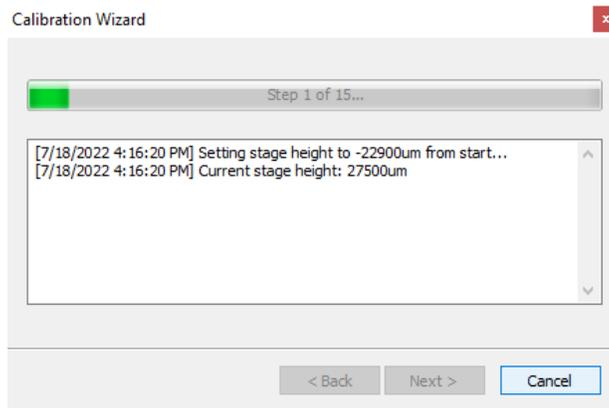

Figure 3.6 Calibration Progress Window
6. Press Next. The system will jog the optical flat down and then back up using the sample support stage. Measurements are taken along the way and a calibration profile including lens distortion is created. A dialog shows calibration progress (**Figure 3.6**). When the calibration is complete, a test will be performed to determine if the result passes or fails. If the calibration passes, volumetric calibration files will be saved automatically. If the calibration fails, a 'FailedCalibrationTest.akx_disp' file will be saved automatically in C:\ProgramData\Akrometrix\DFP Surface Measurement. This file can be sent to Akrometrix support to help in troubleshooting. If the calibration passes, clicking Finish exits the dialog and the system is ready for measurement.